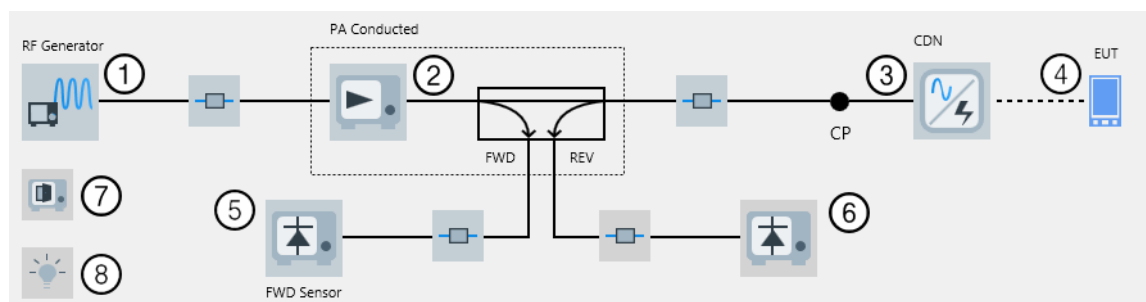

Figure 4-150: EMS hardware setup diagram (conducted) for CDN / EM Clamp in EUT Test View
To select a device or a signal path for integrating it into the hardware setup, click its icon in the diagram. For example, click the generator icon (labeled (1) in Figure 4-150).
Note that this monitoring procedure is different from other setups. For example, an EMS - CDN / EM Clamp setup provides for tests without a receiving transducer (see Figure 4-150).
- The "EUT Test View" (see Figure 4-150)